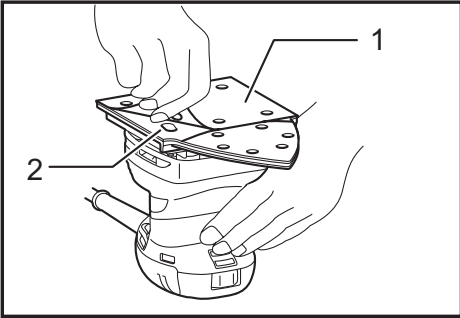

Fig.2
► Fig.2: 1. Velcro sandpaper 2. Base